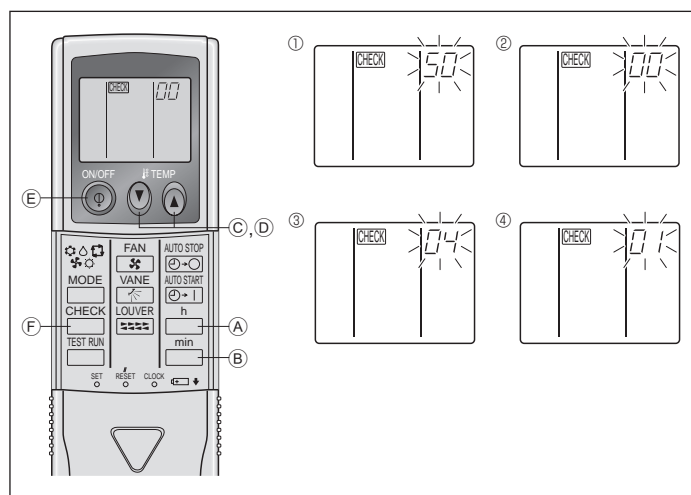

Fig. 6-10
2) For wireless remote controller (Fig. 6-10)